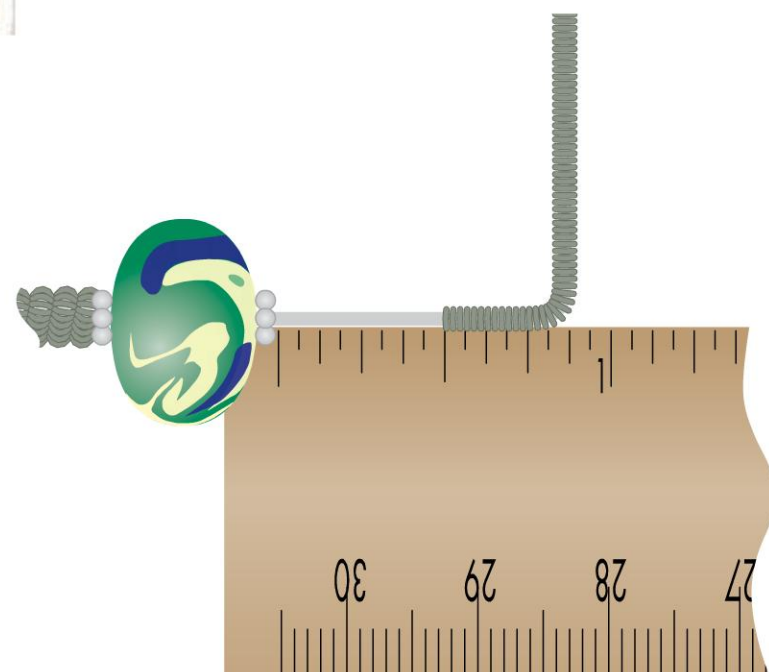

figure 3
- 8 Place the coil ½" (1.3 cm) from an end daisy spacer on the 18-gauge wire. Form a 90° bend in the 18-gauge wire ¾" (1.9 cm) from the spacer (Figure 3). Be careful not to squeeze the pliers too hard, separating the coiling.